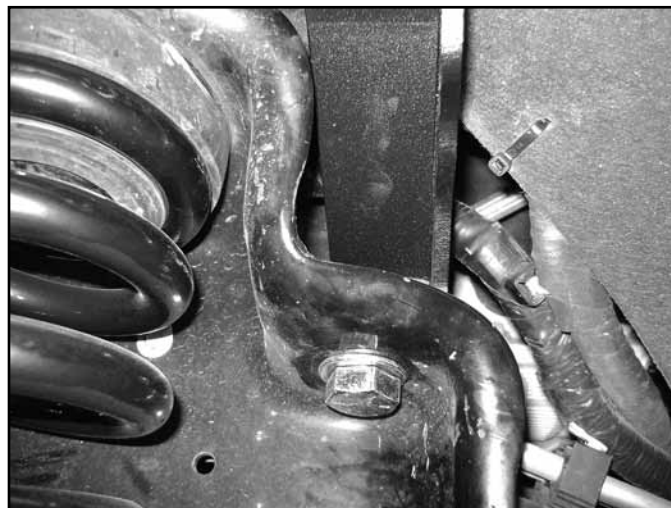

Fig. 1
8. Attach hoop with 3/4" bolt through the original upper shock mount to hold it in place. Mark hole centers for the end tubes. (Fig 1, Fig 2)